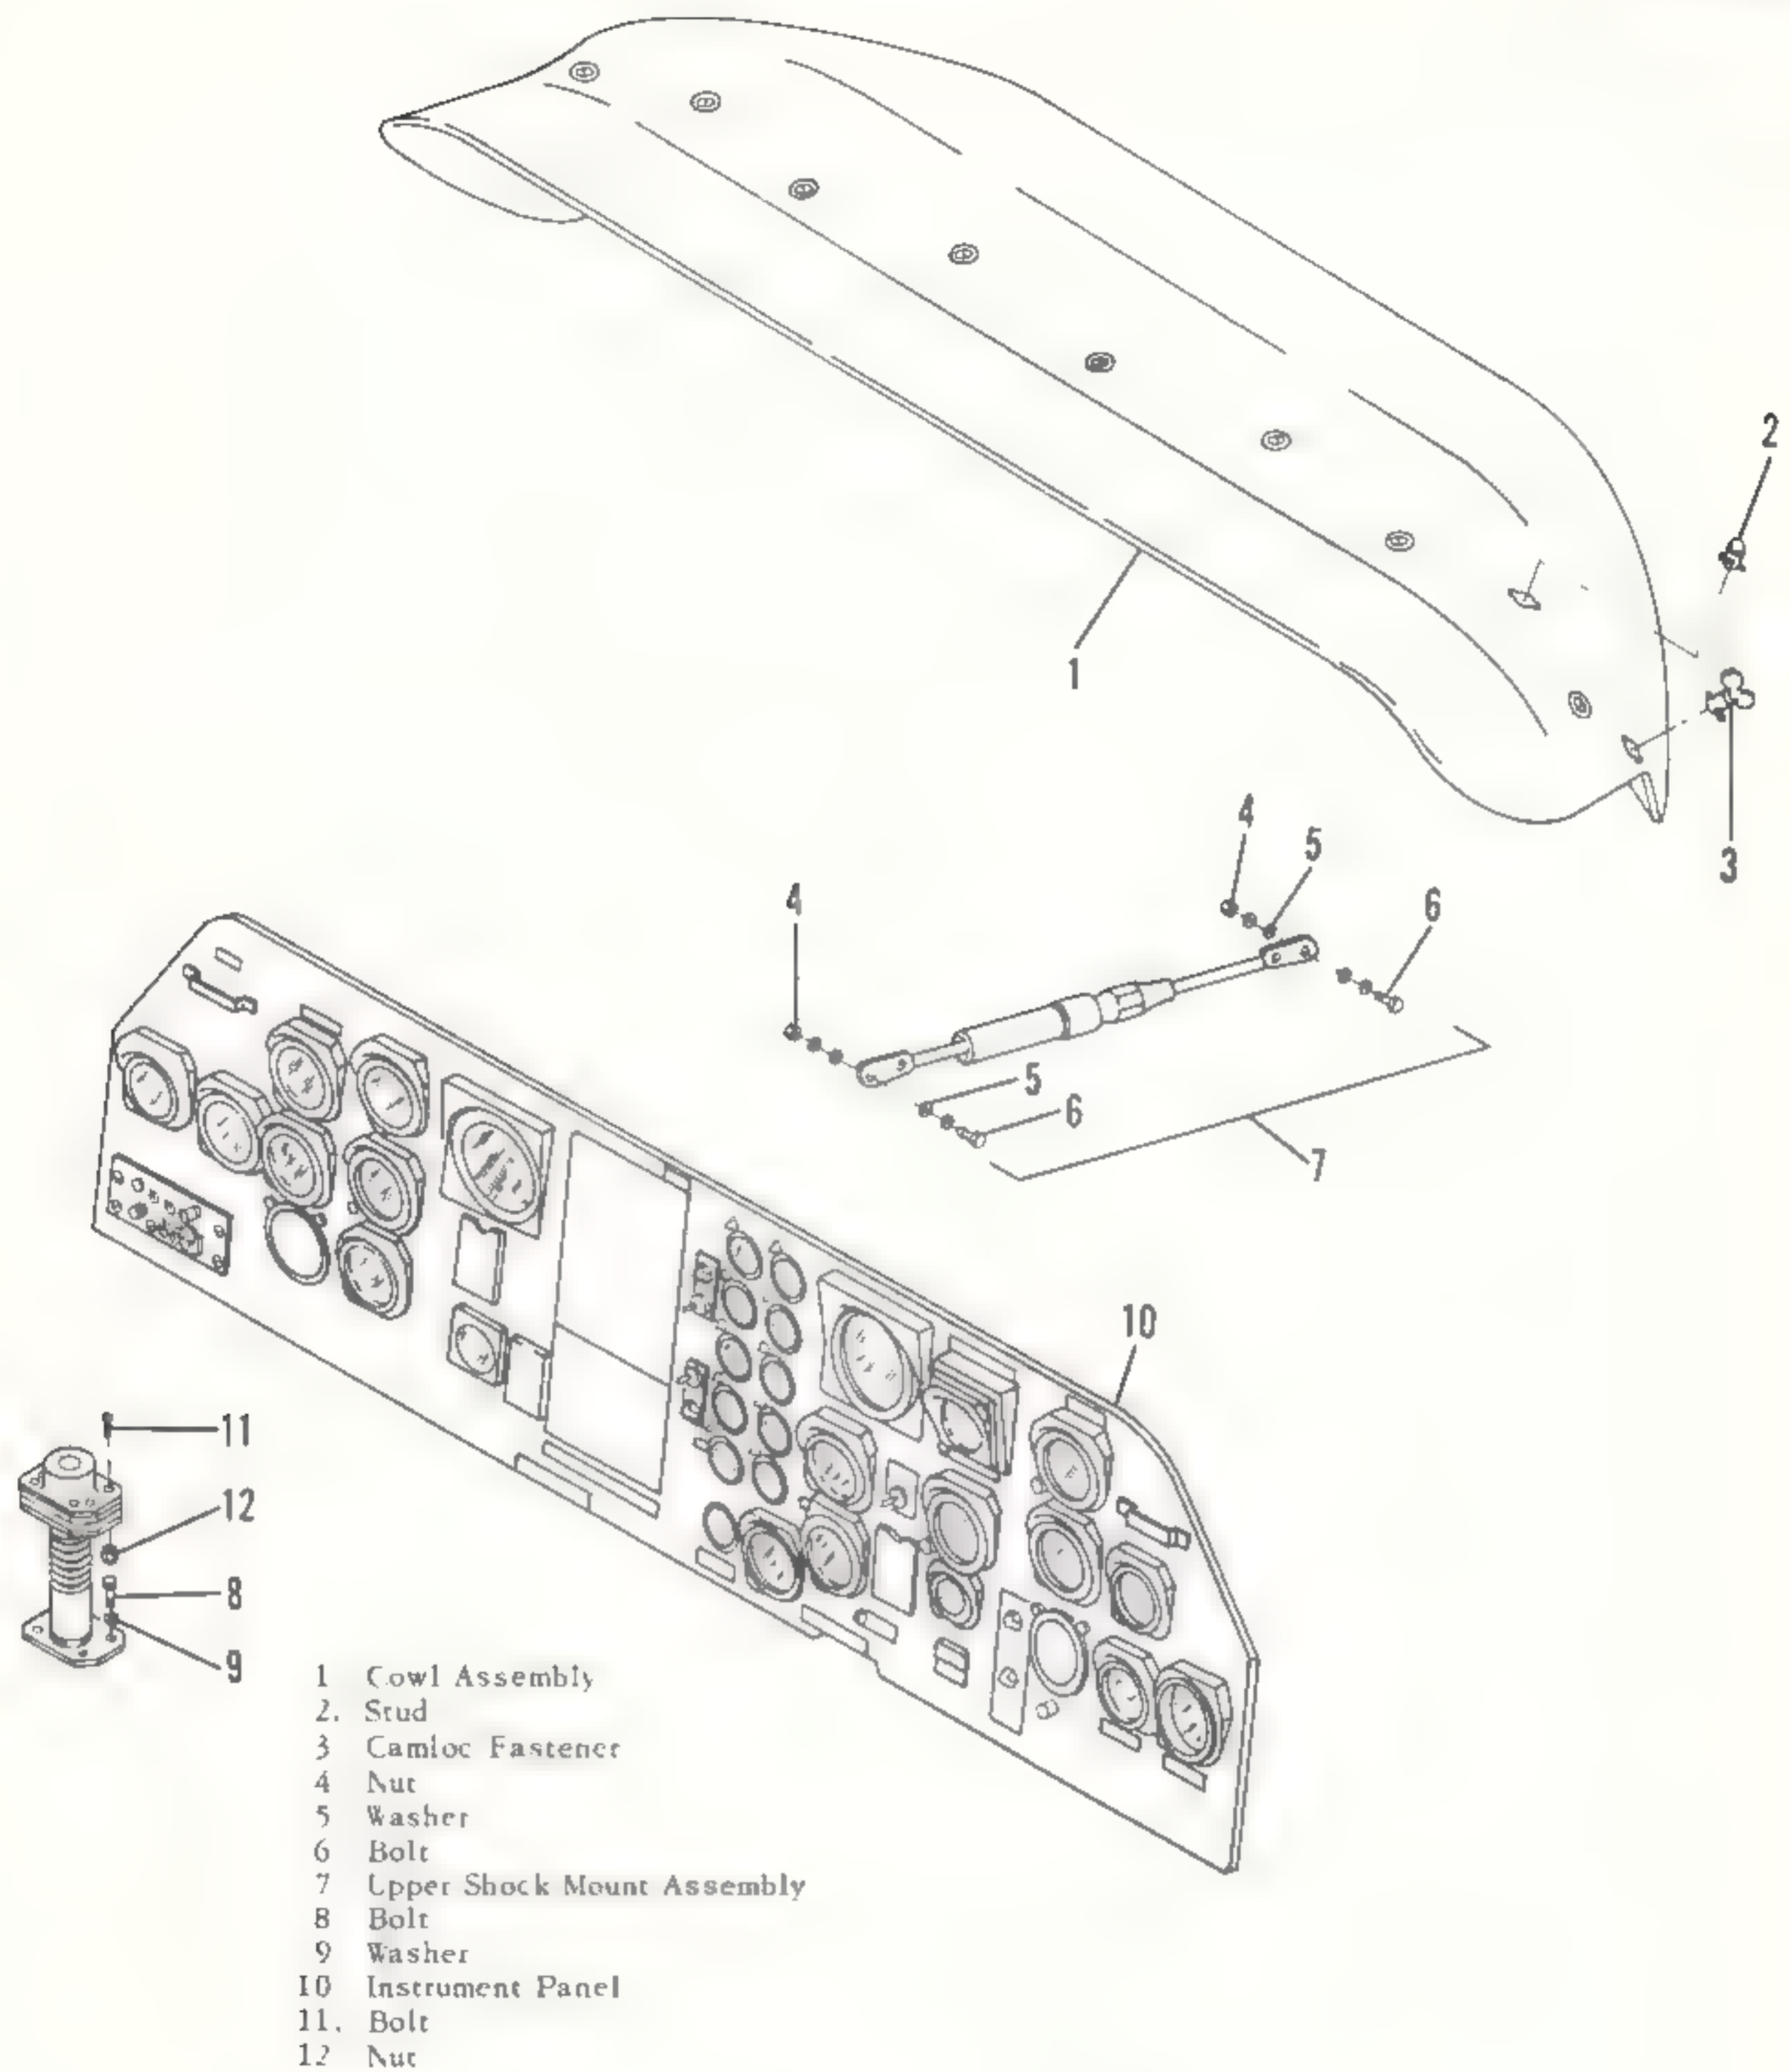

Figure 10-4. Typical instrument panel installation
a. *Removal.* (1) Place battery and generator switches in OFF position, and make sure external power source is disconnected.
(2) In electronics compartment, remove disconnect plug from battery. Provide a means to ensure cable will not be reconnected while instrument panel is being serviced.
(3) From sides of cowl assembly (1, figure 10-4), remove studs (2). Remove fasteners (3) and cowl assembly (1).
(4) Tag and remove hose assemblies at fittings on rear of all altimeters, airspeed indicators, vertical velocity indicators, and manifold pressure gages.
(5) Remove disconnect plugs from rear of radio compass, azimuth, course, cross pointer, and attitude indicators.
(6) Using appropriate wiring diagram for reference, disconnect shielded lead from fuel quantity system at connectors in floor and leads from fuel quantity selector switch at terminal board on rear of instrument panel.
(7) Remove disconnect plugs at rear of ADF control unit and signal distribution panel.
(8) Remove instrument panel disconnect plug located on floor beneath instrument panel.
(9) Inspect rear of instrument panel (10, figure 10-4) carefully for wiring connected, clamped, or
(2) Inspect metal fasteners for unserviceable conditions.
(3) Inspect shock mounts for resiliency.
(4) Inspect mounting hardware for scoring, mal-formed threads, and corrosion.
c. Installation. (1) Inspect rear of instrument panel (10, figure 10-4) for damaged wiring, disconnect plug, tubing, and clamps. Inspect clamps and other mounting hardware for security.
(2) Place instrument panel (10) in flight compartment through side window, position lower shock mount assemblies in proper position, and secure with bolts (8) and washers (9). Install instrument panel on lower shock mounts and secure with bolts (11) and nuts (12).
(10) Install instrument panel disconnect plug.
(11) Install cowl assembly (1, figure 10-4) with studs (2). Secure fasteners (3).
(12) In electronics compartment, install disconnect plug to battery.
(13) Inspect instrument panel shock mounts for proper installation. Move instrument panel vertically and laterally to see that shock mounts are operating freely and properly.